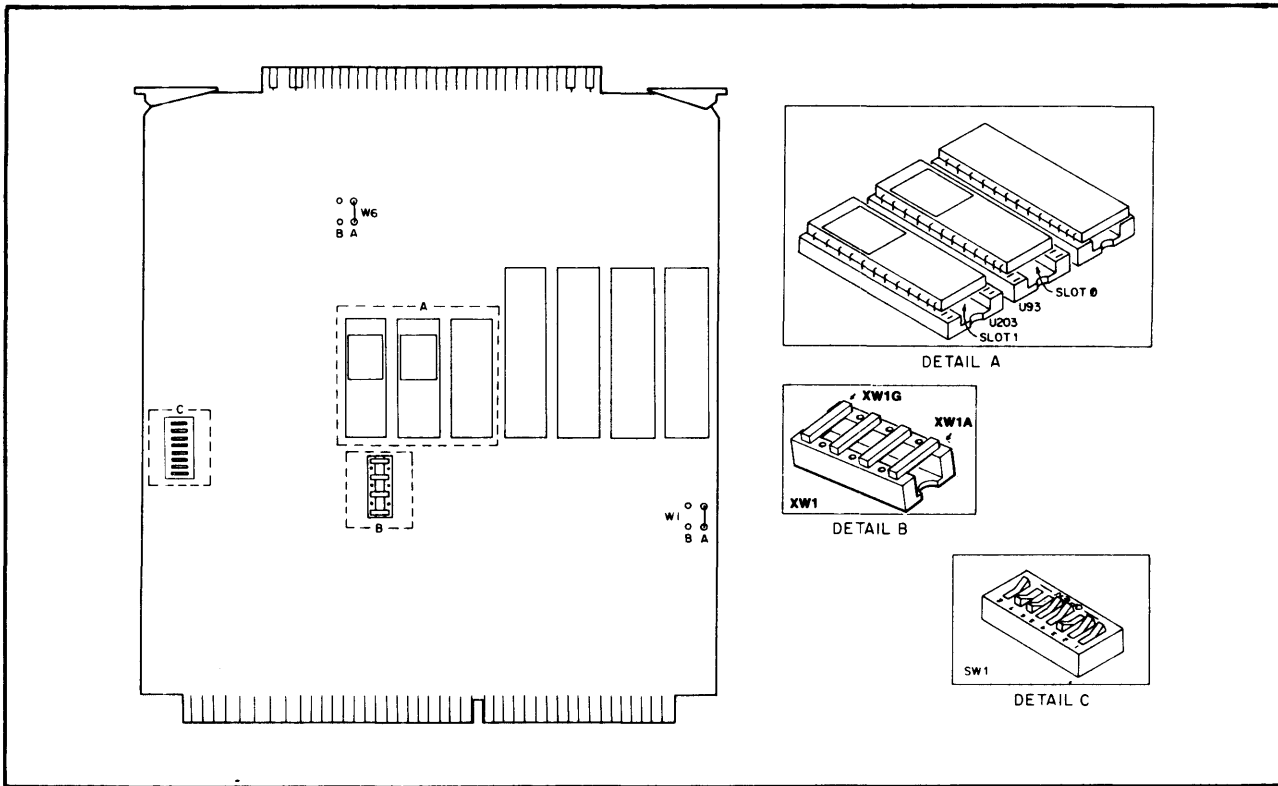

Figure 2-1. ROM/EPROM, Jumper, and DIP Switch Locations
Refer to figure 2-1 for correct installation positioning of the firmware ROMs/EPROMs. Note that when 24-pin ROMs/EPROMs are installed, socket pins 1, 2, 27, and 28 are left empty.
A set of jumpers on the PSI card provides the option of using different ROM/EPROM parts. The set consists of a 14-pin socket containing seven removable jumpers (XW1A through XW1G), and one hardwired jumper (W5). Check to see that XW1A through XW1G are configured as described in tables 2-1 and 2-2 for the specific ROM/EPROMs that are installed. (The hardwired jumper, W5, is configured at the factory.) Refer to figure 2-1 for the physical locations of the jumpers on the card. Functional locations of the jumpers are shown on the schematic logic diagram (figure 6-2, sheet 2, in Chapter 6).
Two additional jumpers, W1 and W6 (see figure 2-1 for the physical locations and figure 6-2, sheet 3, for the functional locations), are configured according to the function for which the card is to be used. Jumper W1 must be placed in position A during normal operation and when testing with a diagnostic or loop-back hood installed. This configuration releases the Terminal Ready line (TR) to firmware control. Jumper W6 is normally in the A position also. Refer to the applicable firmware manual for applications requiring different configurations of jumpers W1 and W6.
The card provides a Dual In-line Package (DIP) containing eight switches which may be sensed by the firmware. This set of switches can be used to determine the information field size, the transmit clock rate, and associated time-out values depending on the firmware implementation. The transmit clock rate should be set to indicate the clock rate that is supplied by the modem being used. Switch position number 1 (Bit 0) is both a firmware read switch, and a hardware function. When this switch is open, the forced cold load capability of the PSI card is physically disabled. Refer to figure 2-1 for switch position on the card, and to the firmware (product) manual for switch settings.